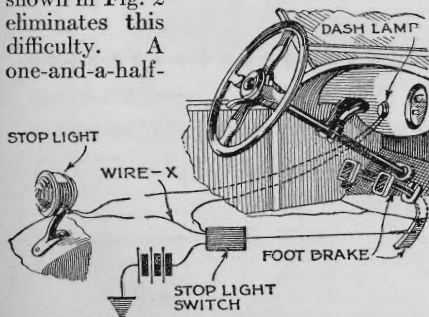

Fig. 2. The prize winner—the arrangement of a novel flashlight indicator that tells condition of stop light.
**T**HE common method of hooking the dash light in series with the tail-light, using three-volt bulbs at each point, works nicely with the tail-light, but the system does not work with the stop light, which uses a much more powerful bulb, for no one wants a large bulb shining from the dash. The wiring arrangement shown in Fig. 2 eliminates this difficulty. A one-and-a-half-
James Pesek, of Chicago, Ill., wins this month's \$10 prize for his suggestion for a stop light indicator, shown in Fig. 2, in lower left-hand corner of page. Each month POPULAR SCIENCE MONTHLY awards \$10, in addition to regular space rates, for the best idea sent in for motorists. Other contributions used are paid for at usual rates.